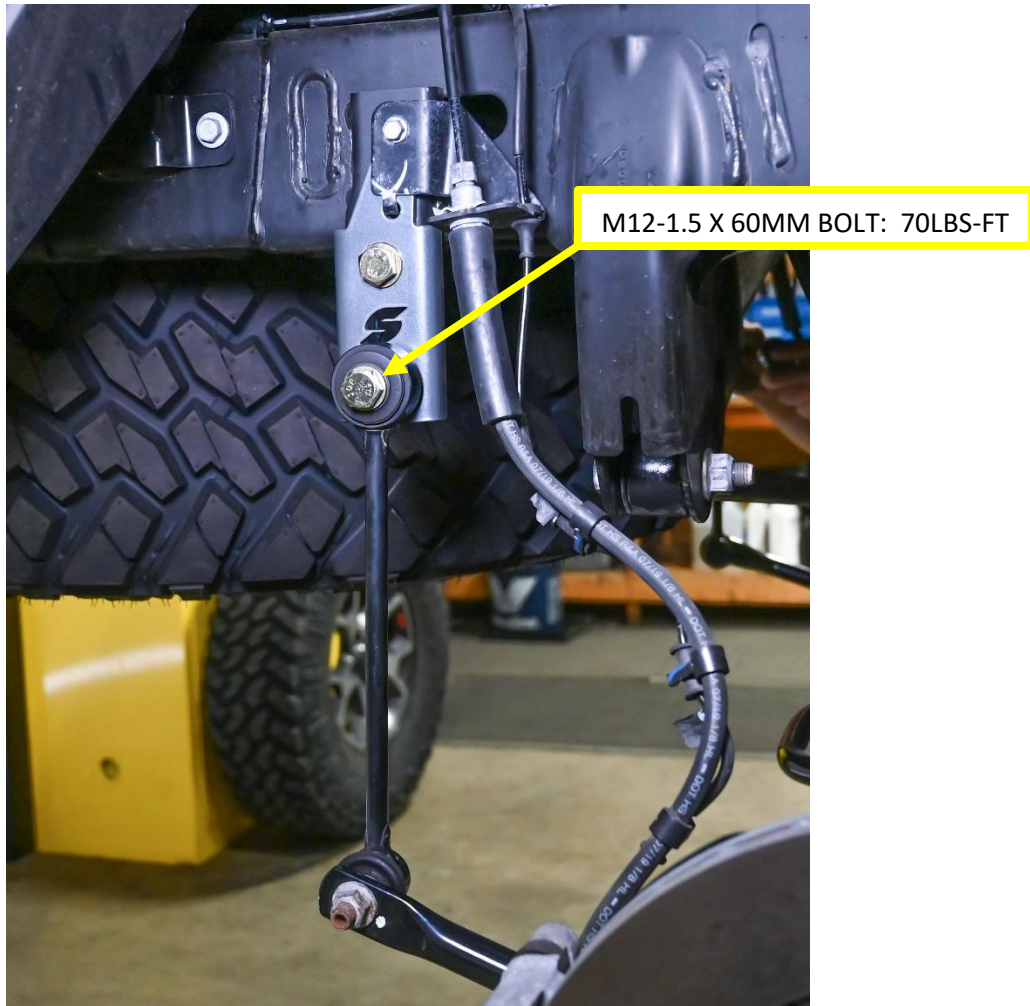

Figure 2. Pass Sway Bar End Link Attached to Drop Bracket
5. Bolt the sway bar end links onto the new drop brackets. Use one of the supplied M12-1.50 x 60mm bolts, M12 top lock nuts, and 12mm washers. The bolt with a washer should go through the sway bar end link bushing and through the sway bar drop bracket with a nut and washer on the back side. Torque to 70lbs-ft. See **Figure 2**.